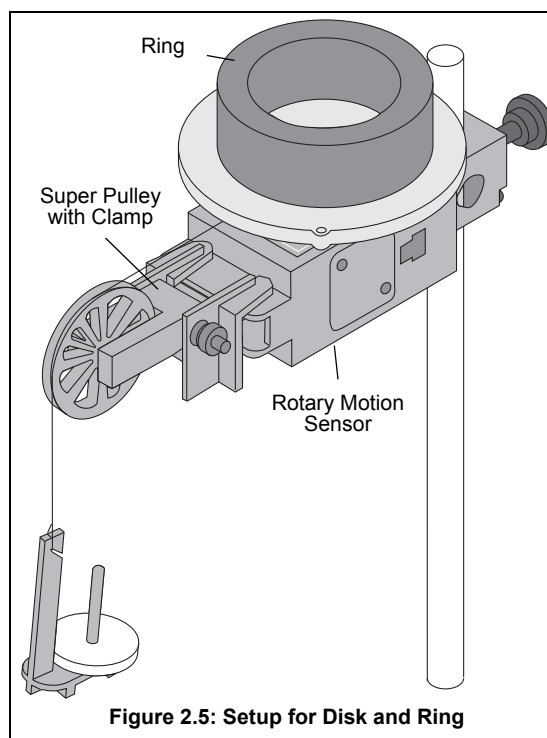

Figure 2.5: Setup for Disk and Ring
7. Place the ring on the disk, inserting the ring pins on the bottom edge into the holes in the top of the disk as shown in figure 2.5.